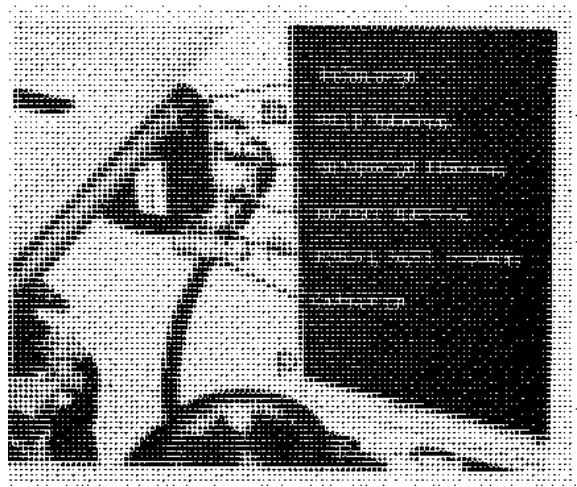

Figure 5-10. Regulator, Installed
- (1) Disconnect and tag leads at BAT, GEN and F terminals of regulator (fig. 5-10).